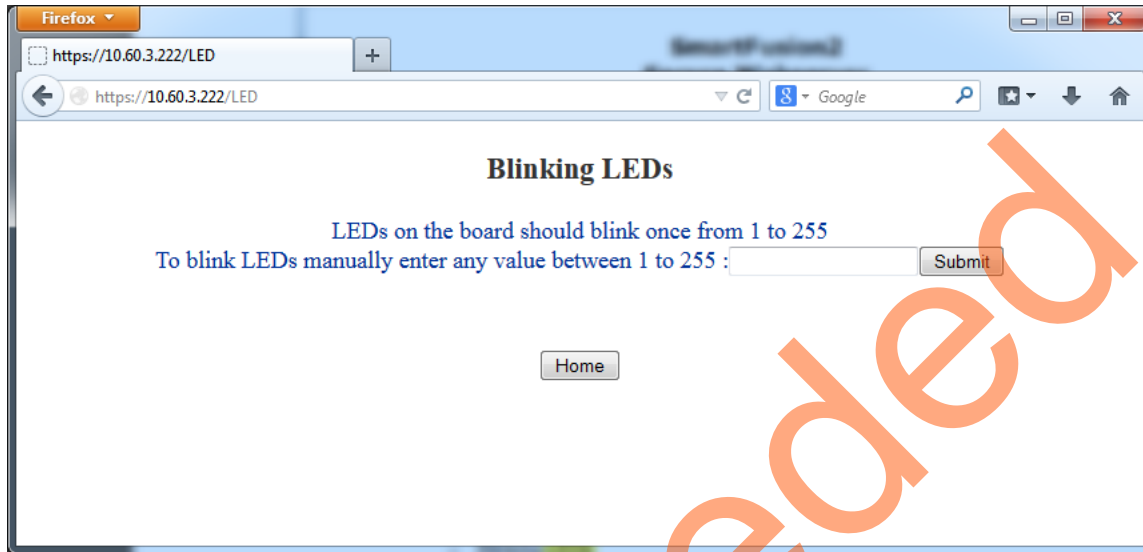

Figure 18 • Blinking LEDs Page
1. Click **Blinking LEDs** on the main menu. You can observe a running LED pattern on the SmartFusion2 board. The webpage gives an option to enter the values to blink the LEDs manually as shown in Figure 18.